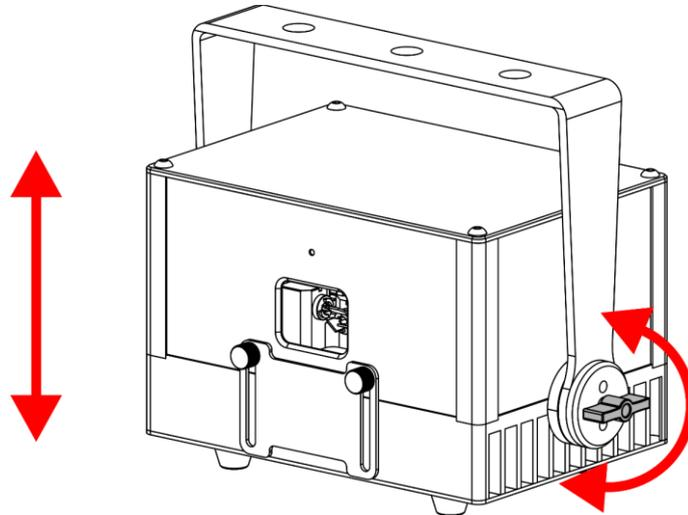

Fig. 12
- 01) Turn the **adjustment screws (02)** counterclockwise to release them.
- 02) Tilt the device at the desired angle (see Fig. 12).
- 03) Turn the **adjustment screws (02)** clockwise to tighten them. Make sure that the device cannot move freely after the **adjustment screws (02)** are tightened.